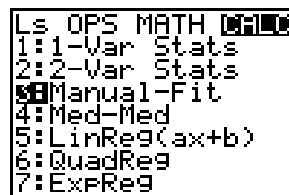

Figure 25
2. Select option 3:Manual-Fit from the CALC menu (Figure 25).